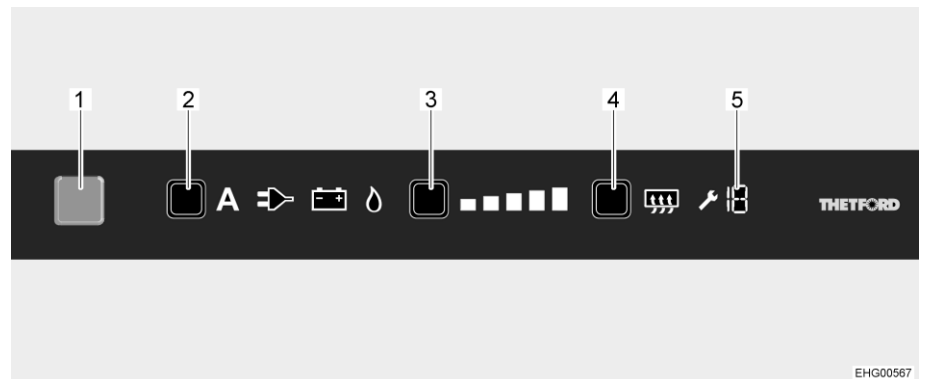

Fig. 148 LCD touchscreen
- Press and hold the On/Off button (Fig. 148,1) for 1 second. Button lights up blue. The last setting selected is displayed.
- Press the power selection button (Fig. 148,2) repeatedly until the desired energy source has been selected.
- Press the cooling level button (Fig. 148,3) repeatedly until the desired cooling level has been selected. The current cooling level is indicated by illuminated bars.
- Press and hold the On/Off button (Fig. 148,1) for about 2 seconds. All lights go out. Refrigerator is switched off.